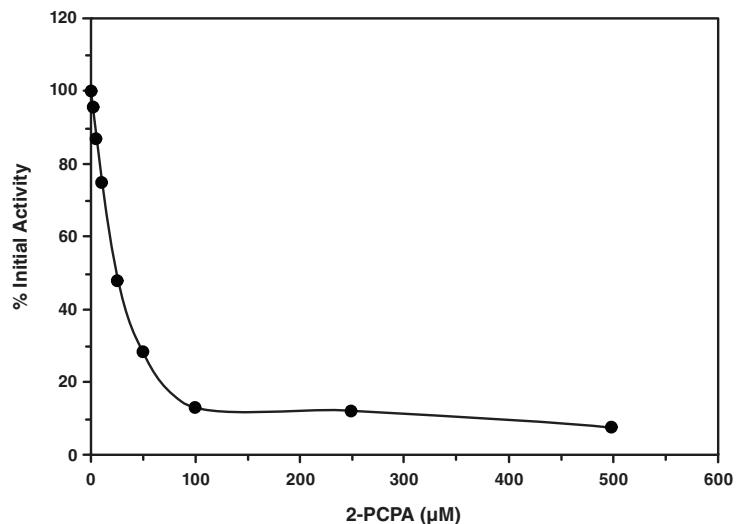

Figure 3. Inhibition of LSD1 by 2-PCPA ($IC_{50} = 22 \mu M$)
4. Either graph the Percent Inhibition or Percent Initial Activity as a function of the inhibitor concentration to determine the IC₅₀ value (concentration at which there was 50% inhibition). An example of LSD1 inhibition by *trans*-2-phenylcyclopropylamine (2-PCPA, Item No. 10010494), is shown in Figure 3 on page 14.^{9,10}